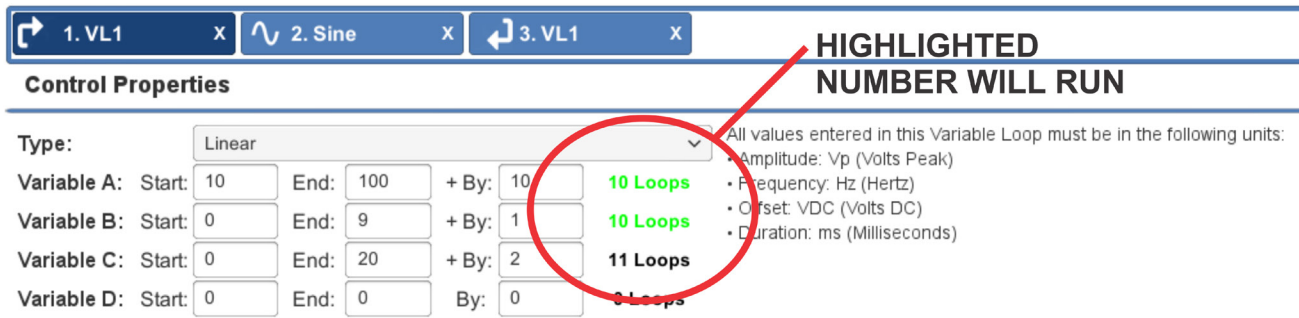

Figure 6.11 – Adding Additional Variables to a Linear Variable Loop
**Adding Additional Variables:** Up to four different waveform properties can be assigned as variables within a Variable Loop control. When the properties set for variables will result in a different number of loops to be generated, the 3110A will only generate the lesser number of loops. The actual number of loops to be generated will be highlighted on the Variable Loop Start tab. See **Figure 6.11**.